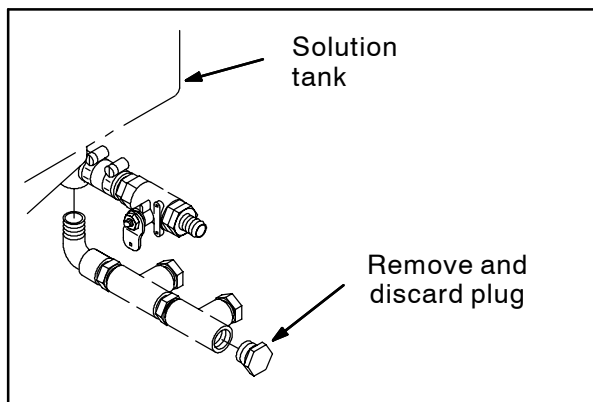

FIG. 3
3. Remove the plug from the solution supply assembly. Discard the plug. Refer to Fig. 3.